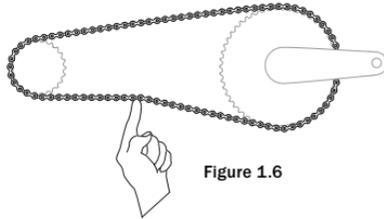

Figure 1.6
- Coaster brake: There should be between 6-12 mm (0.25-0.50") total vertical movement in the middle of the chain (Figure 1.6).